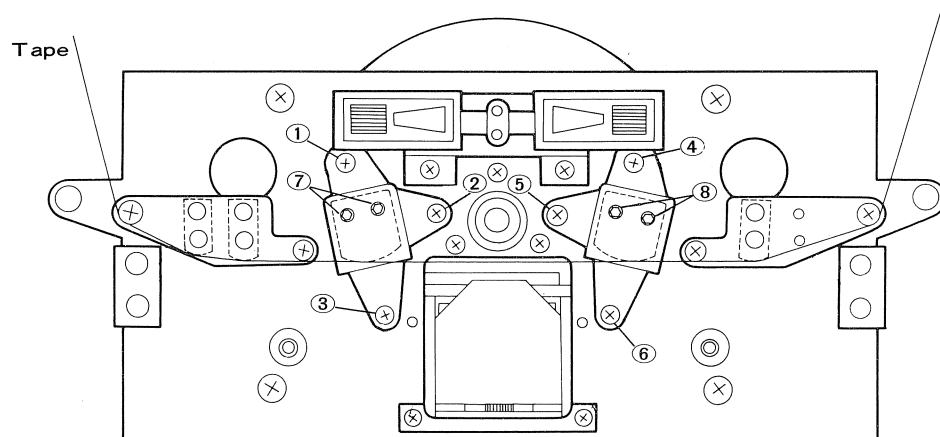

Fig. 24
3. To readjust, turn Philips head screws 1 and 3 in Fig. 24.
2. To readjust, turn screws 4 and 6 in Fig. 24.
4. In forward tape motion, both VTVMs should indicate maximum output level. Re-adjustment: screws 1 and 3 in Fig. 24.
5. Turn test tape over, re-load. Put tape deck in reverse play motion. Adjust screw 4 and 6 in Fig. 24 to obtain maximum reading on both VTVMs.